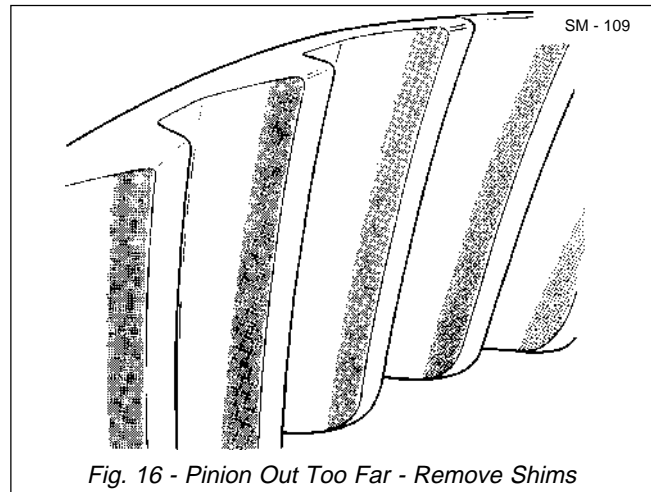

Fig. 16 - Pinion Out Too Far - Remove Shims
e. If the contact area is along the top edge of the ring gear teeth, see Fig. 16, move the pinion in by removing shims.